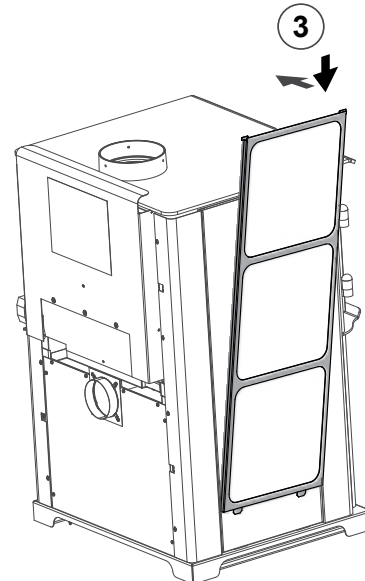

Figure 17.5
- Reattach tile frame (Figure 17.5).